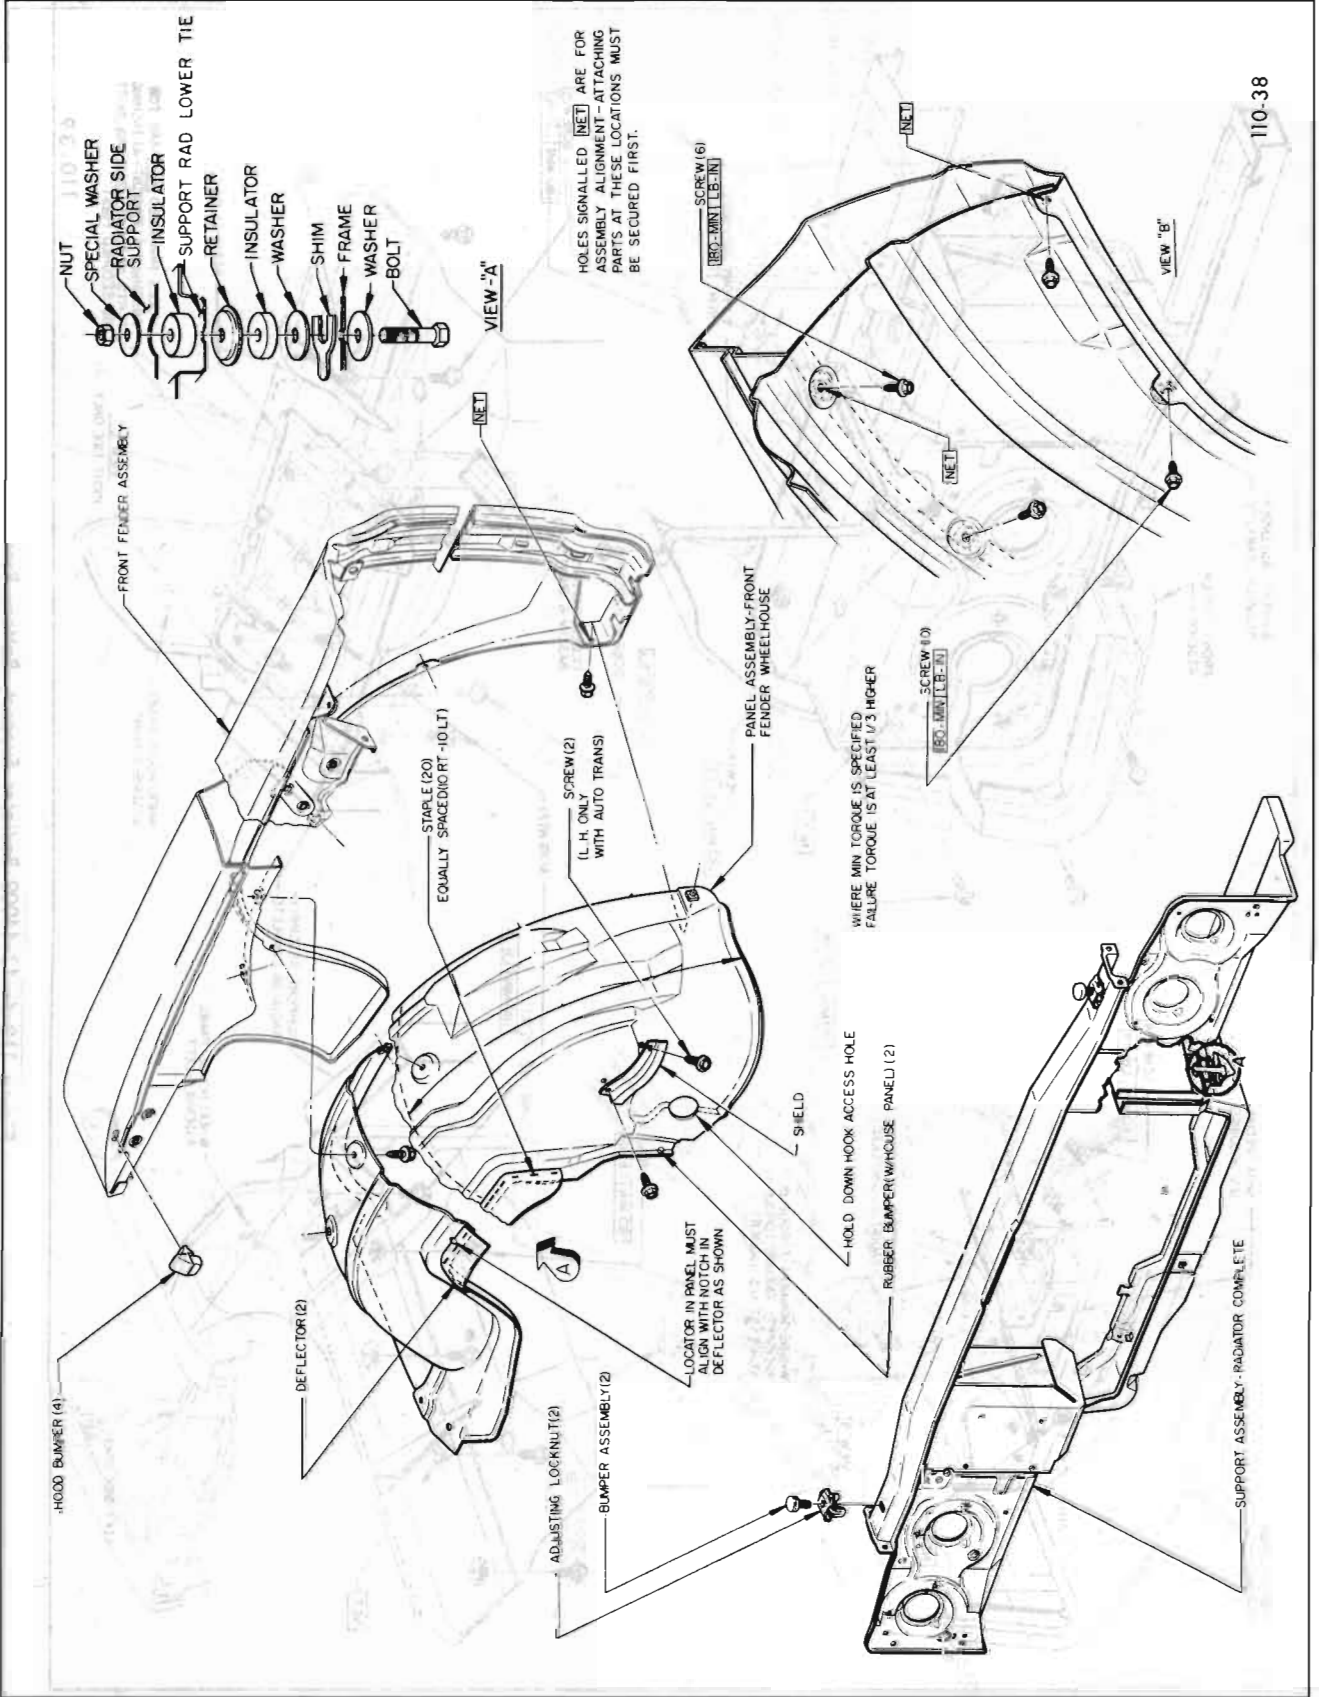

Figure 110-3 43-44000 Fender and Skirt
The chassis sheet metal assembly is attached to the frame and body at adjustment points. See Figures 110-3 and 110-5. The front of the assembly is supported by two mounts located at the frame side rails. Shims at these locations allow up and down movement of the front of the sheet metal assembly. Fore and aft and side adjustment is allowed by oversize holes at the fender rear attaching point and chassis sheet metal mounts. Special shims at the rear locations allow adjustment of the rear of the assembly. The lower rear edge of the assembly is attached to the body at the rocker panel by bolts on each side. Shims are used at this location to provide up and down adjustment at the rear of the fender.
15. Skirt can now be removed from fender by removing skirt to fender attaching bolts. See Figure 110-3.